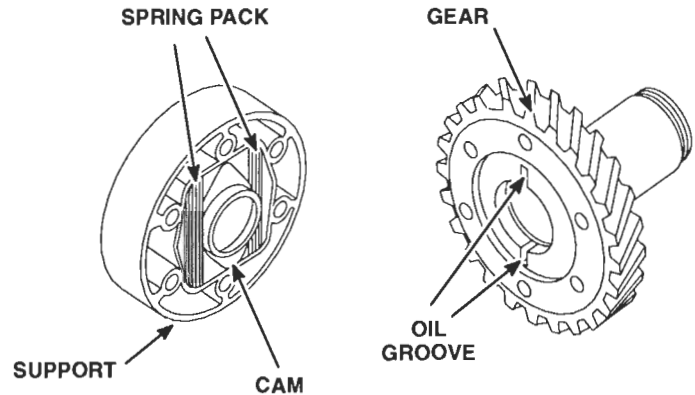

Figure 7. Relation of Blower Drive Cam to Oil Grooves in Gear Hub
8. Place the coupling support against the drive gear with the blower drive shaft ring groove in the cam facing away from the drive gear. Then, place the drive coupling retainer against the coupling support with the flared edge away from the support. Revolve the coupling assembly on the hub flange until the cam lobes are in line with the oil grooves in the gear hub to ensure proper lubrication (Figure 7.)